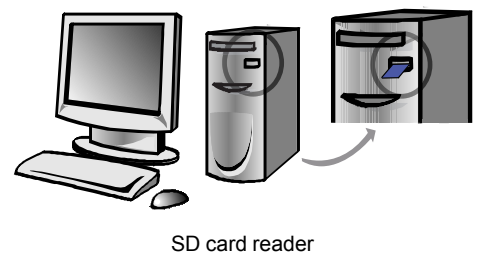

Figure 4
- Insert the SD card in the SD card reader on the PC (see Figure 4 below)